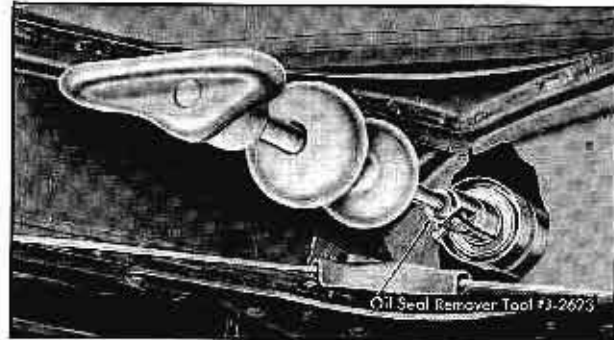

Fig. 14-26 Removing Extension Housing Oil Seal (In Car)
1. Remove extension housing oil seal, using slide hammer Tool No. J-2619-A and collet No. J-2623. Fig. 14-26.
**NOTE:** Collet and Slide Hammer may also be used to remove oil seal in car as shown in Fig. 14-26.